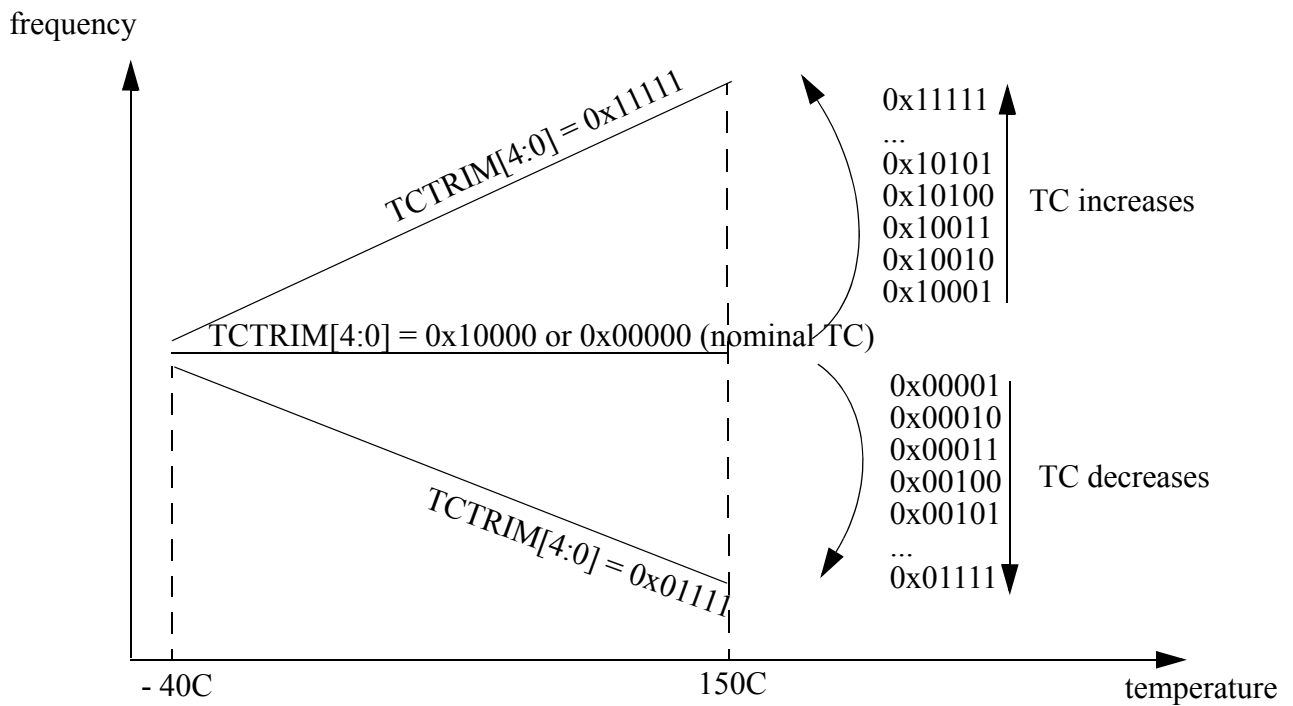

Figure 4-29. Influence of TCTRIM[4:0] on the Temperature Coefficient
| 15-11 TCTRIM[4:0] | IRC1M temperature coefficient Trim Bits Trim bits for the Temperature Coefficient (TC) of the IRC1M frequency. Table 4-27 shows the influence of the bits TCTRIM[4:0] on the relationship between frequency and temperature. Figure 4-29 shows an approximate TC variation, relative to the nominal TC of the IRC1M (i.e. for TCTRIM[4:0]=0x00000 or 0x10000). |